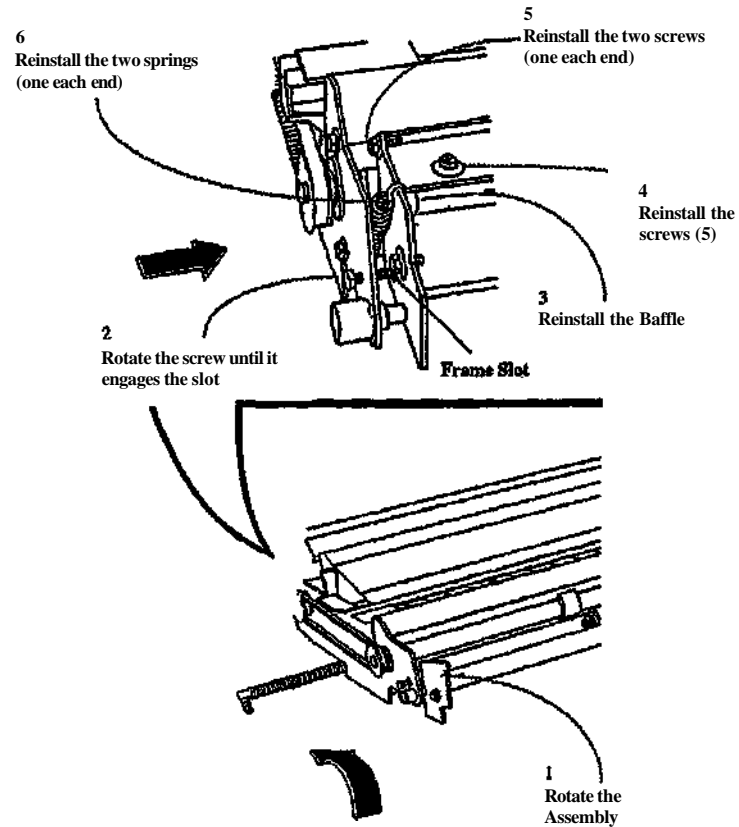

Figure 4. Reinstalling the Springs
3. (Figure 4): Reinstall the springs,